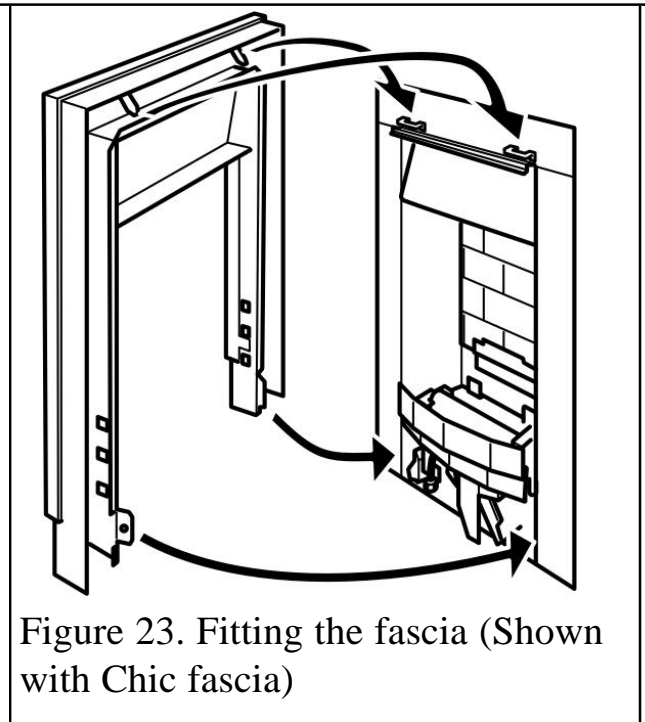
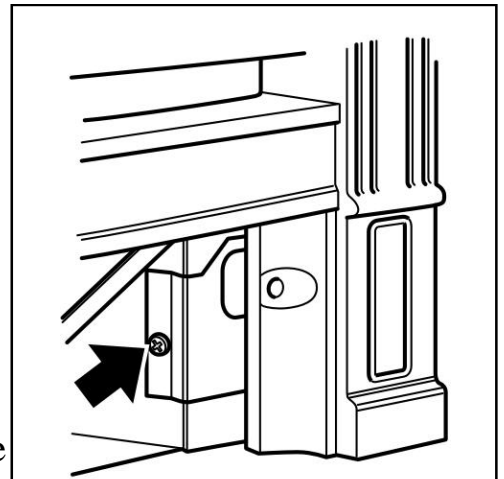

Figure 23. Fitting the fascia (Shown with Chic fascia)
Figure 24. Fascia securing screws (fascia may differ from that shown).
**1.** Fit the fascia to the appliance by locating the top to the upper hanging brackets (See figure 23), then attaching it to the body of the appliance using the two screws supplied (See figure 24).
4. Fit the fascia to the appliance by locating the top to the upper hanging brackets (Figure 23), then attaching it to the body of the appliance using the two screws supplied. If using the 'Hole in the wall' baffle, place the fascia brackets over the baffle and secure using the two screws for securing the fascia.
(See Figure 24).